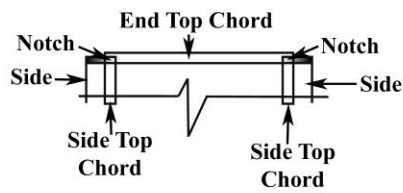

Figure 2
3. Cut notch in the top chord on both ends so that the ends will fit inside the hopper sides. See Figure 1 for a guide. The notch should be the same depth as the end thickness. When the ends fit in position so that the outside edge of the end sits level with the ends of the sides glue into position at Figure 2.